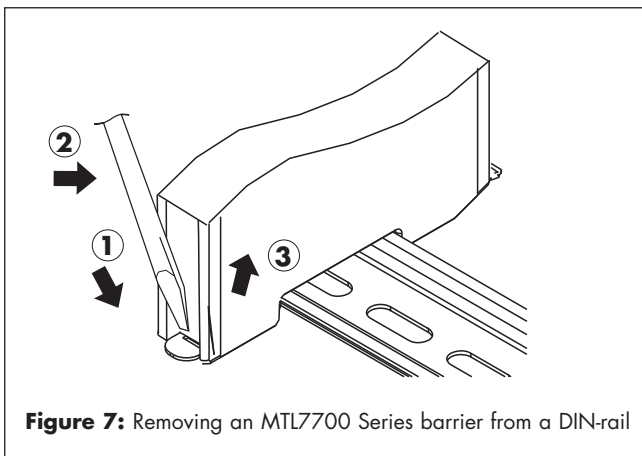

Figure 7: Removing an MTL7700 Series barrier from a DIN-rail
- d) To remove a barrier (figure 7), use the tip of a screwdriver (with a blade width of 4 to 5mm, minimum shaft length 60mm) to ease the metal clip at the base on the safe-area end outwards until the barrier is freed and can be removed easily by unhooking the hazardous-area end.